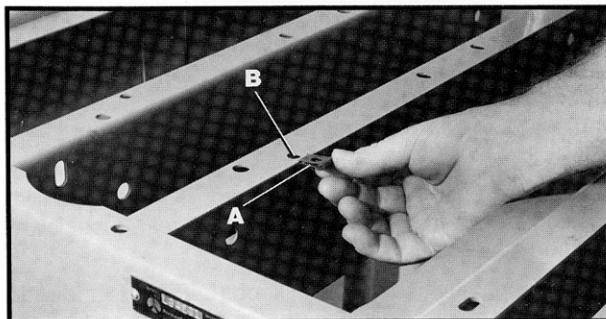

Fig. 25
1. Assemble Tinnerman nut (A) Fig. 25, over hole (B) in the saw base. **NOTE:** Flat side of nut should face up.